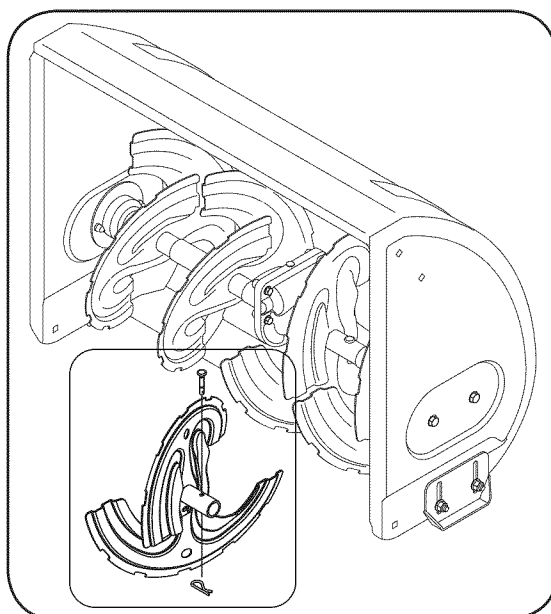

Figure 18
The augers are secured to the spiral shaft with two shear pins and cotter pins. See Figure 18. If you hit a foreign object or ice jam, the snow thrower is designed so that the pins will shear.
2. Replace the pins if needed. Two replacement shear pins and cotter pins have been provided with the snow thrower. Spray an oil lubricant into shaft before inserting new pins and securing with new cotter pins. See Figure 18.